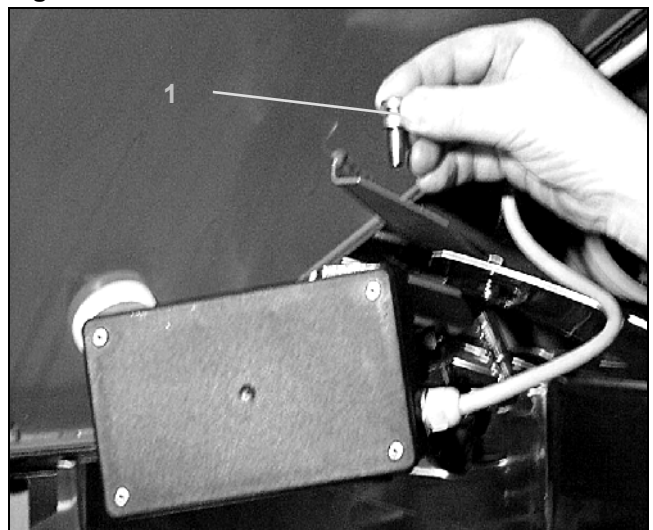

Fig. 87
- Extrair ambas as cavilhas articuladas (Fig. 87/1).